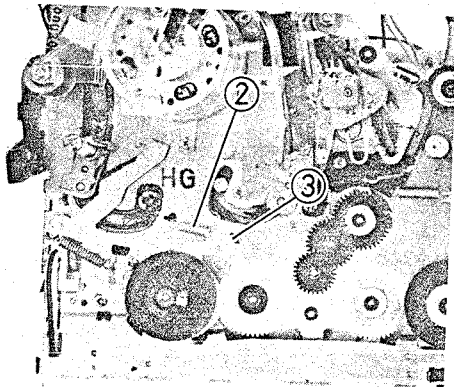

Fig. 2-98 Supply Sub Brake Removal
Supply Sub Brake Removal (Fig. 2-98)
2. Remove the supply sub brake spring. (See Fig. 2-98)
3. Release one (1) tab.